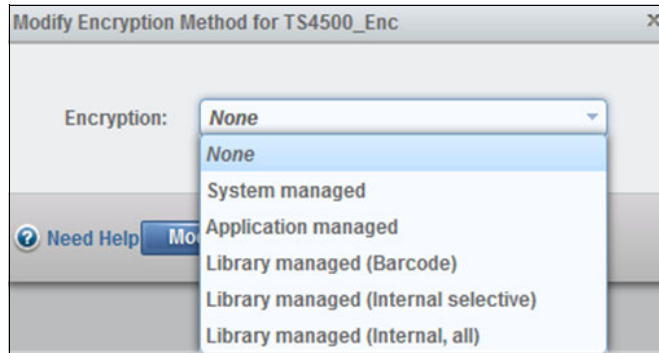

Figure 3-3 Modify Encryption Method window
3. Choose a method from the Encryption menu on the Modify Encryption Method window and click **Modify**, as shown in Figure 3-3.